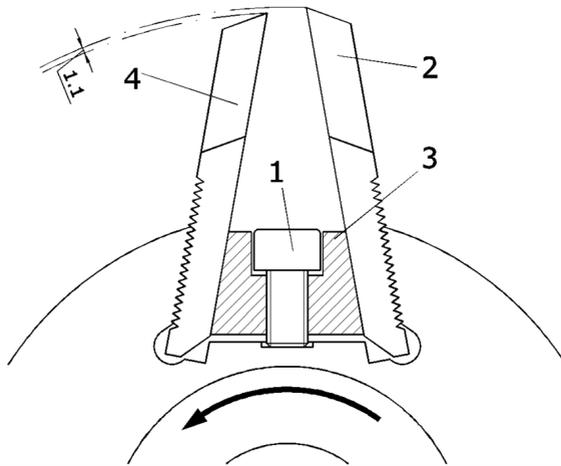

Fig. 1
(see Fig. 1)
2. Align cutterhead in such a way that the screws (4) per knife can be loosened. If available, use our tool holder (Art. no. TA633005).
6. Push-in laterally on the lowest serrated position the serrated knife together with the gib and limitor into the corresponding knife seat (see Fig. 1). Make sure that serrated knife and gib with marked sides are flush with the 0-point position of the tool body. To achieve this use a flat bar or vernier scale to position flush the marked sides of knives and limitors with the 0-point side of the tool body.